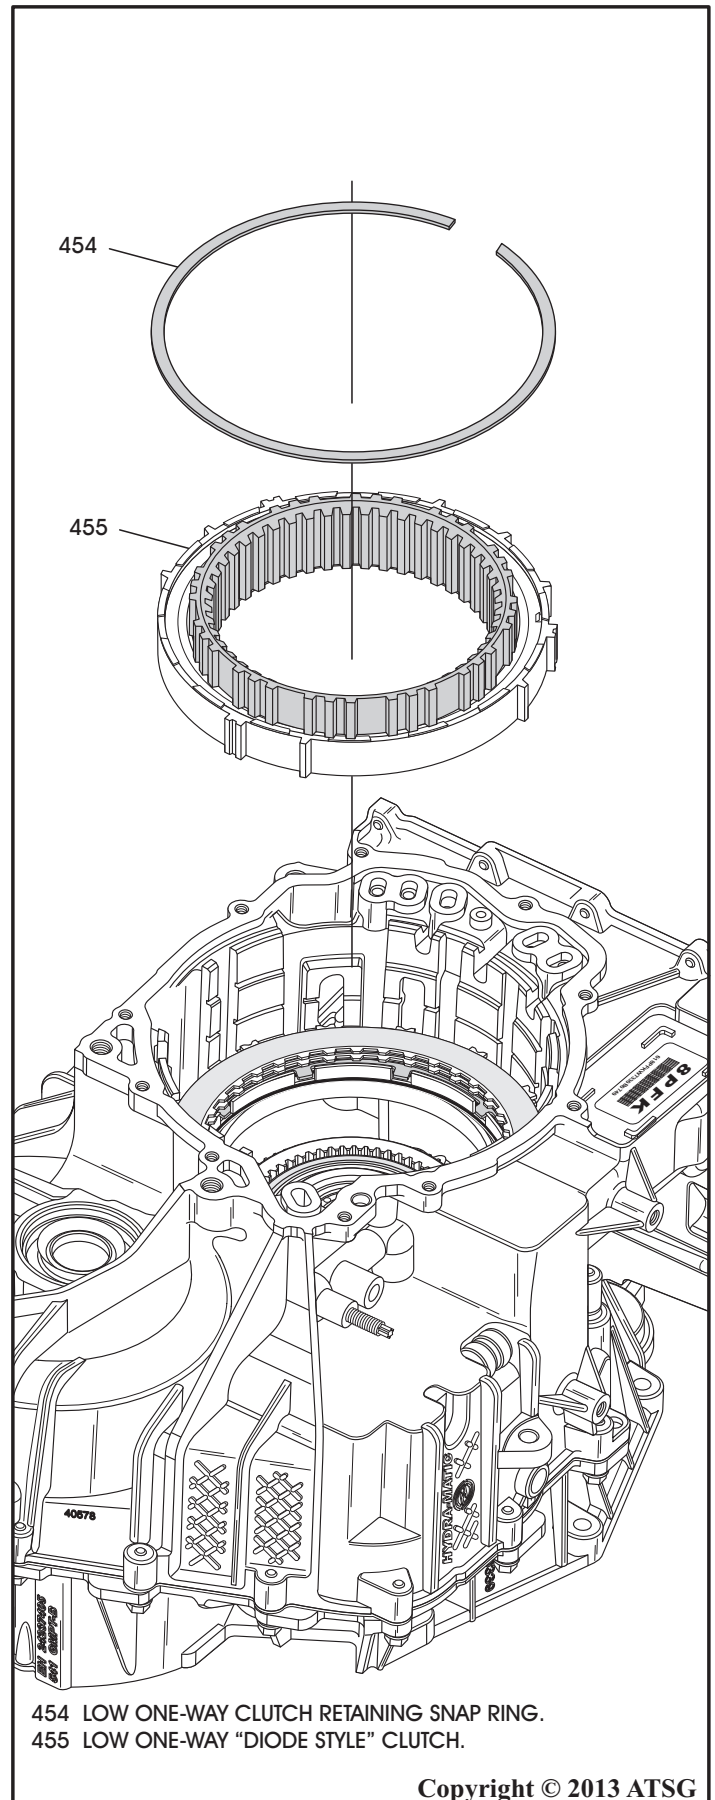

Figure 196
19. Install one-way "diode style" clutch assembly into the case, as shown in Figure 196.
20. Install the snap ring into case groove, as shown in Figure 196, with the opening facing the valve body side of the case and ensure that it is fully seated.